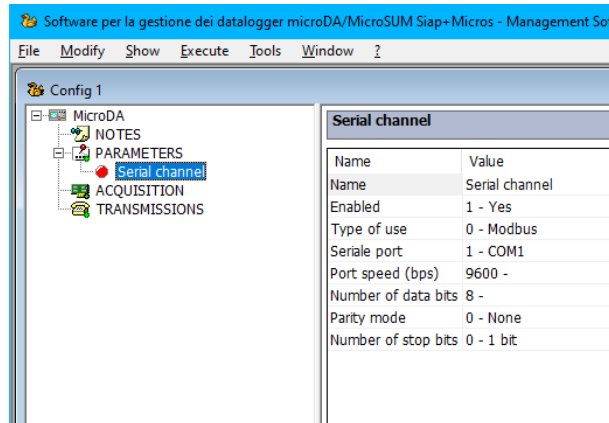

Figure 13.10: configuration of a serial channel.
- Using a serial port. In this case the user needs to configure a serial channel from Parameters section along with the serial port settings (see Figure 13.10). To connect the datalogger to the PC, the user must use an USB-RS232 or USB-RS485 converter, depending on the chosen serial port.